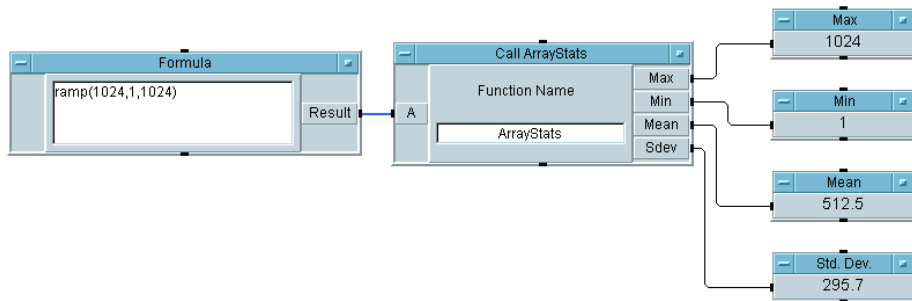

Figure 8-3. Calling the User Function ArrayStats
6. Run the program. It should look like Figure 8-3. Save the program as array_stats.vee.